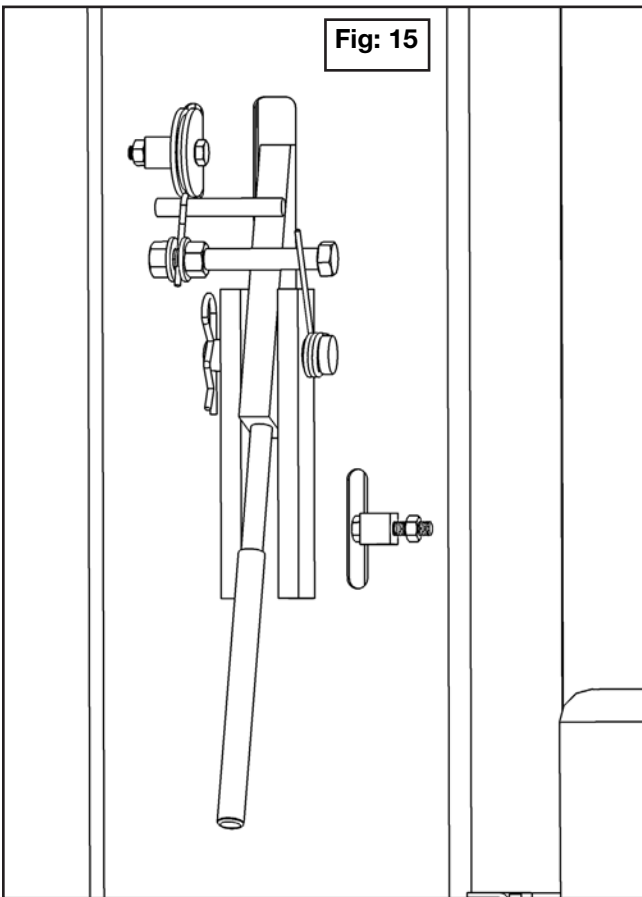

Fig: 15
5. Route the cable over the top pin on the safety handle. Insert the cable end through the hole on the threaded post. (See figure 15 on next page)